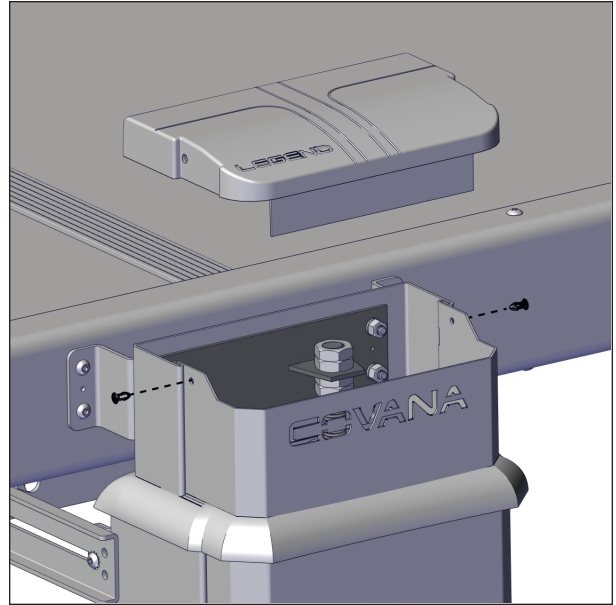

FIGURE 81: TOP PLATE COVER INSTALLATION
26. Attach a top plate to each post using the provided push-in rivets (2 rivets per post), see Figure 81